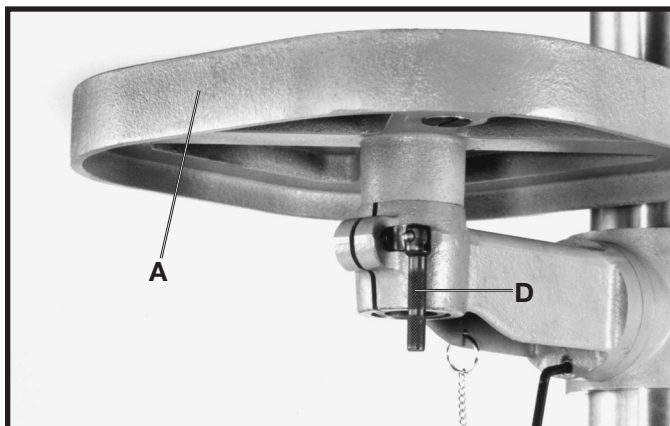

Fig. 26
2. The table (A) Fig. 26, can be rotated 360 degrees on the table bracket by loosening lock handle (D).